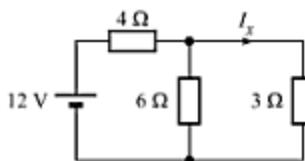

Fig. 2.33
- Determine the current I_x flowing through the $3\text{-}\Omega$ resistor in the circuit of Fig. 2.33. [Ans. $4/3 \text{ A}$]